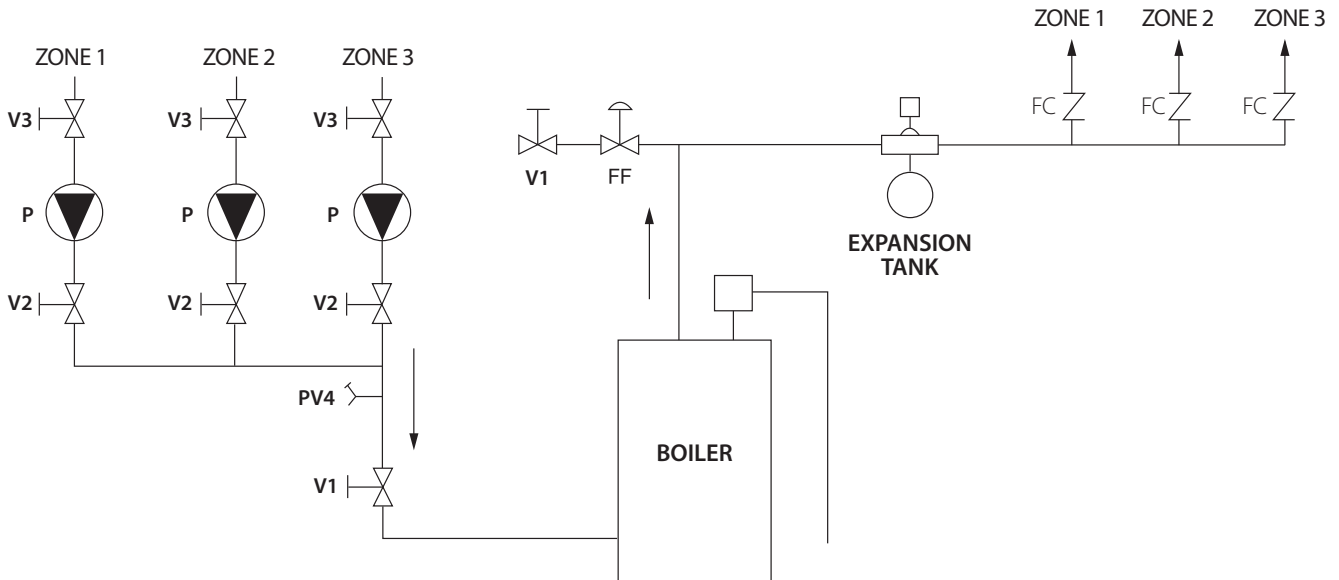

**Figure 2**
- 1. Location:** The circulator can be installed on the supply or return side of the boiler but for best system performance, it should always pump away from the expansion tank. See piping diagrams in Figure 2 & Figure 3.